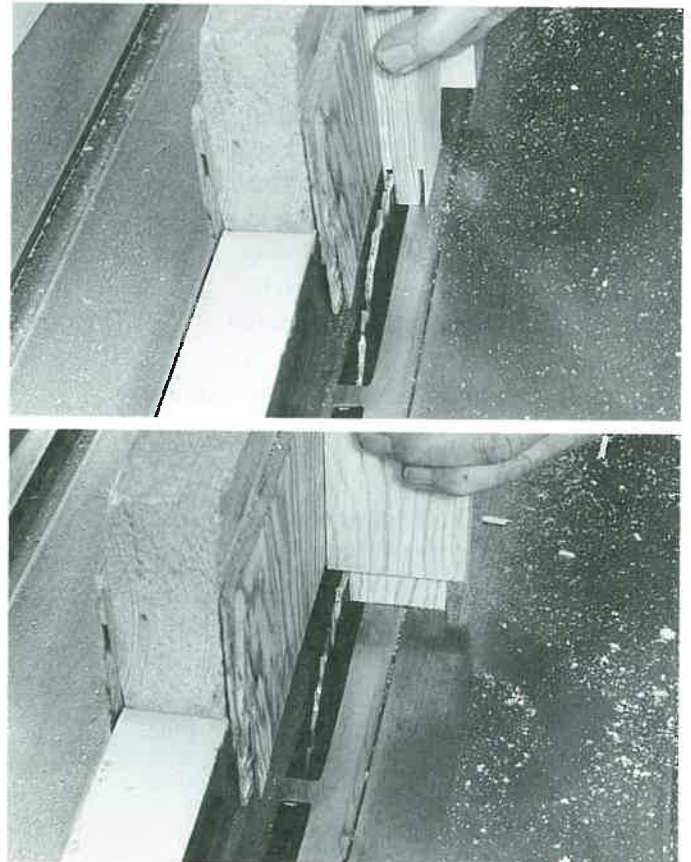

Figure 29-41. Making cheek cuts with the stock positioned vertical by a user-made tenoning jig.
10. Set the blade height 1/16" (2 mm) less than the tenon length so that you do not cut beyond the shoulder into the part. See Figure 29-41.